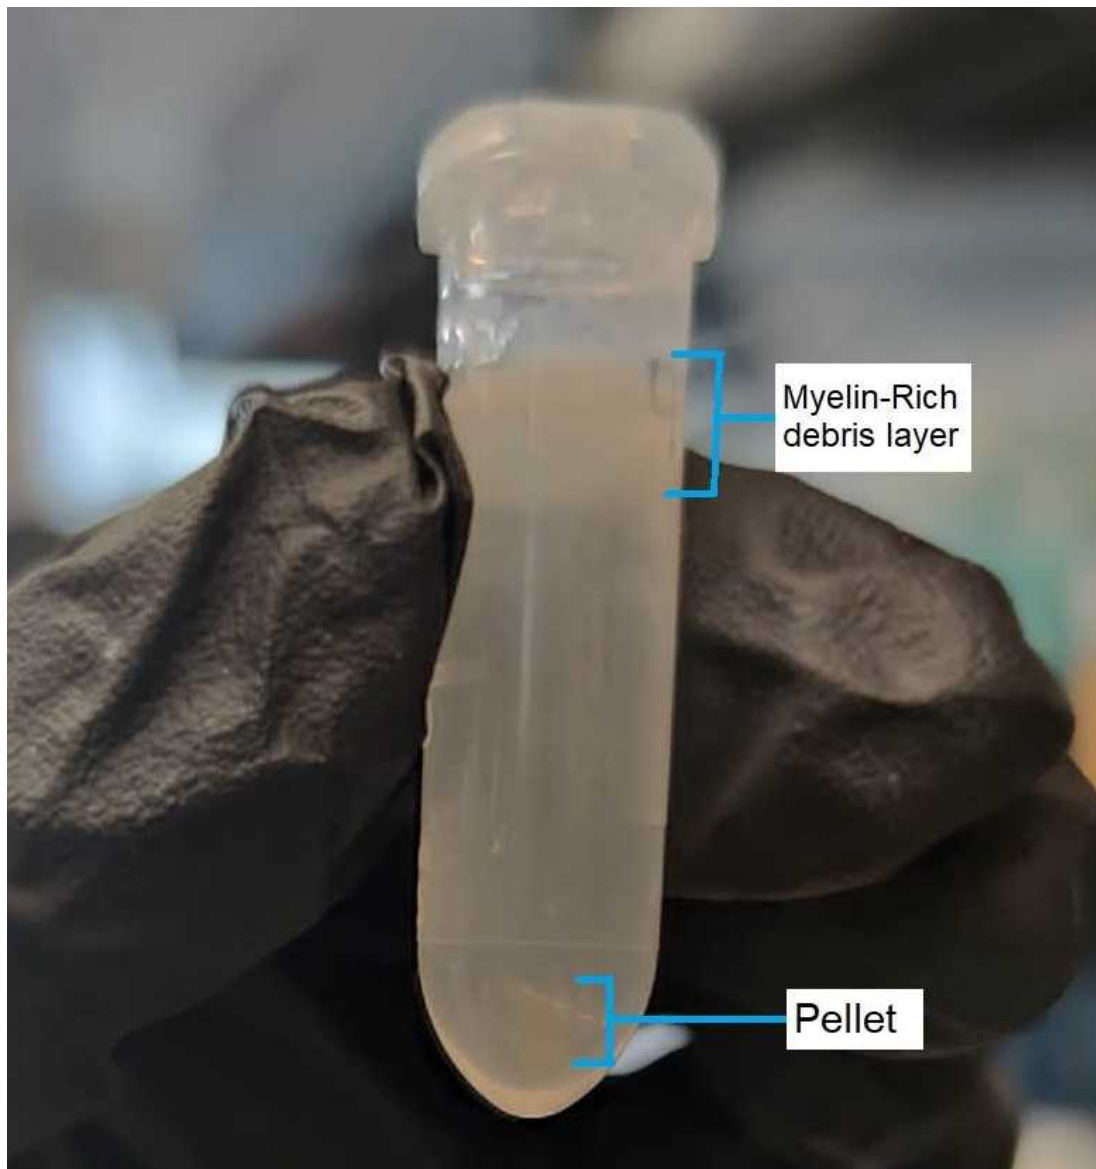

Figure 2. A representation of what should result after centrifuging the different concentrations of Iodixanol solution.
- 19 After centrifugation, remove and discard the myelin-rich debris layer on the top (see **Figure 2**). Then, remove and discard the aqueous supernatant, without disrupting the nuclei pellet **⚠ On ice**.